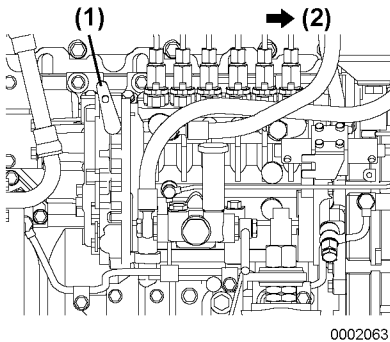

Figure 7
If for some reason you can't stop the engine by the stop switch on the panel, push the stop lever (Figure 7, (1)) towards the front of the engine (Figure 7, (2)) to shut down the engine in the engine room. **WARNING! SEVER HAZARD. ALWAYS keep hands, body parts and loose fitting clothes away from moving / rotating parts such as the flywheel or PTO shaft.** When pushing the stop lever to the front side, the trouble indication of the governor pops up in the display. After the engine is shut down, return the stop lever to the former position.